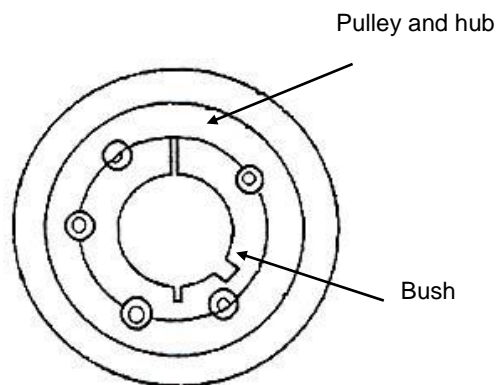

FIG 21.
- F. Fit the hub and bush on the shaft as one unit (Fig 21) and locate it in position as desired. Remember that the bush will nip onto the shaft first, after which the hub will be slightly drawn onto the bush. Ensure that the keyways line up.